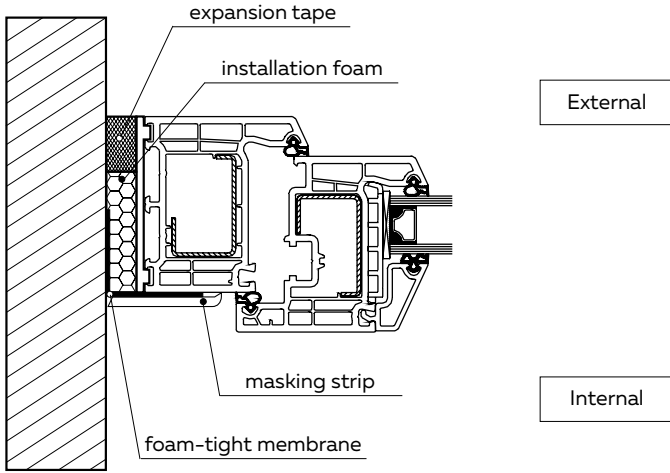
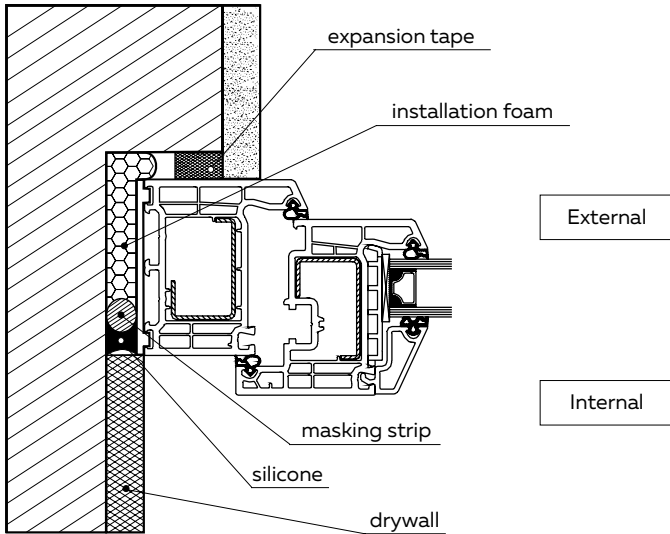

Fig. 7
Fig. 8
- b) inside (foam and vapour-proof foil or silicone): it must be plastered, covered with a plasterboard (fig. 8 p. 15) or a masking strip (fig. 7 p. 15).